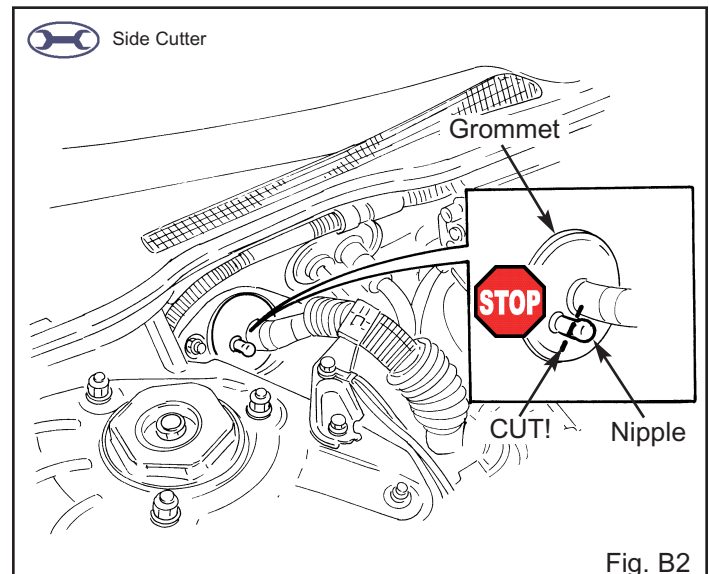

Fig. B2
3. Cut off the tip of the nipple on the grommet. (Fig. B2)